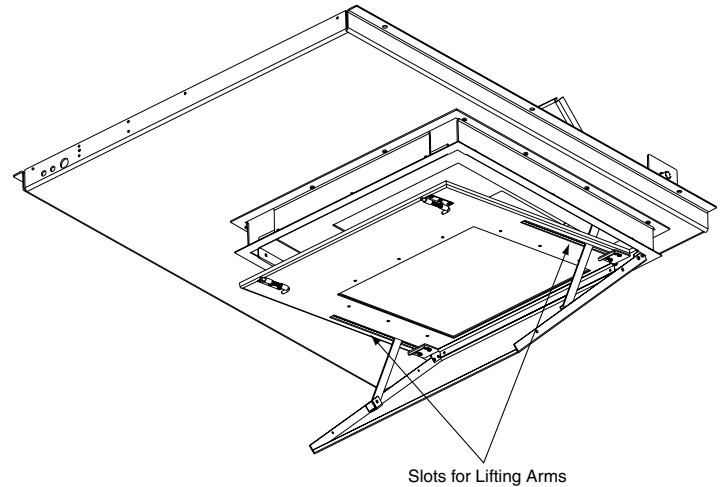

Figure 3
- ⑥ Install latch plate to opened end of door trim using three 4-40 button head cap screws provided.
- ⑦ Install hinge plate to hinged end of door trim using three 4-40 button head cap screws provided.
- ⑧ With the glass on top, slide shield into place, allowing lifting arms to slide between slots in shield (see Fig. 3).